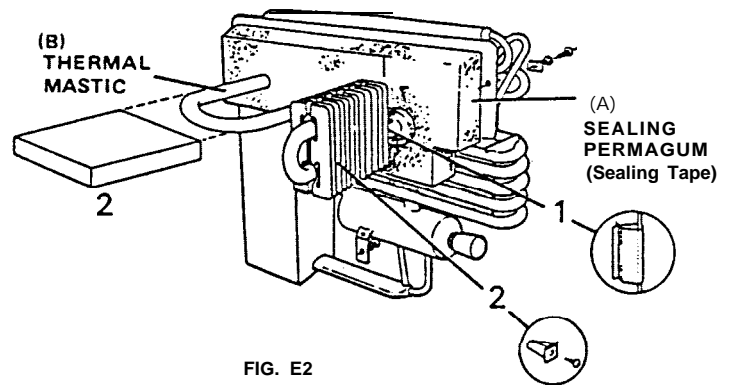

FIG. E2
4. Pull cooling unit part way out and then disconnect thermostat capillary tube and pull out (1; FIG. E2).
6. Remove evaporator fins and shelf (2; FIG. E2).
1. Apply thermal mastic on the evaporator coil (B; FIG. E2).
2. Install evaporator fins and shelf (FIG. E2).
3. Apply sealing permagum (sealing tape) on window insulation (A; FIG. E2).
4. Reinstall capillary tube into proper position (FIG. E2).
3. Remove evaporator screws (FIG. E2).
3. Remove two (2) screws holding clamp for thermostat capillary tube. Pull capillary tube out gently (FIG. E2).